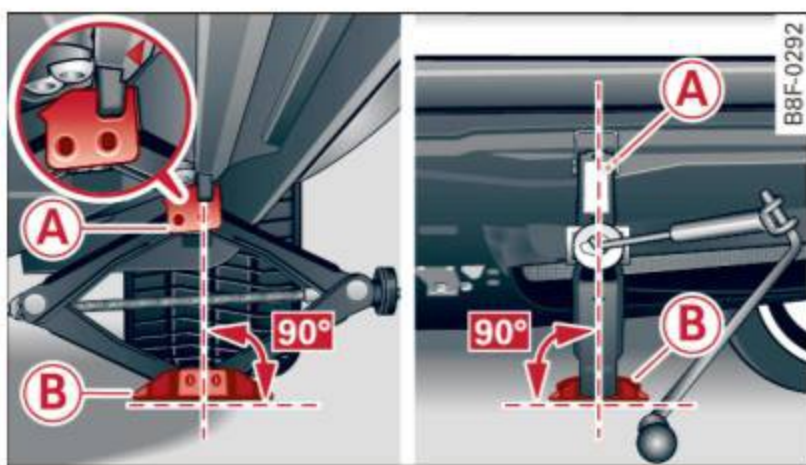

Fig. 180 Sill: positioning the vehicle jack
- ▶ Turn the **vehicle jack** located under the lifting point on the sill to raise the jack until the jaw ⇒ fig. 180 (A) covers the **notch** on the vehicle ⇒ ⚠ ⇒ !.
- ▶ Align the vehicle jack so the jaw (A) covers the notch and the base plate (B) is flat on the floor. The base plate (B) must be **vertical** under the lifting point (A).